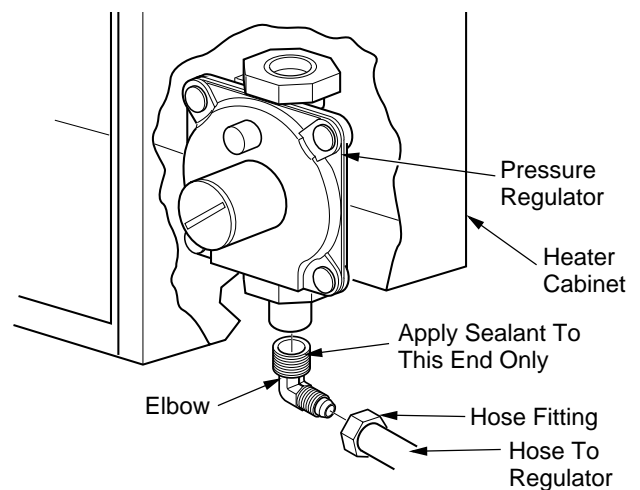

Figure 10 - Gas Connection
**WARNING:** Use pipe joint sealant that is resistant to liquid petroleum (LP) gas.
2. Apply pipe joint sealant lightly to male NPT threads (see Figure 10). This will prevent excess sealant from going into pipe. Excess sealant in pipe could result in clogged heater valves.